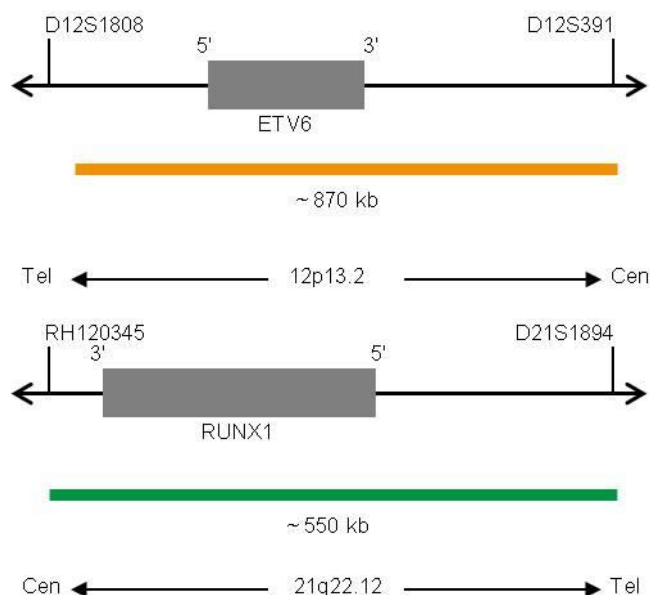

Fig. 1: Top: SPEC ETV6 Probe map; Bottom: SPEC RUNX1 Probe map (not to scale)
- ZyOrange (excitation 547 nm/emission 572 nm) labeled polynucleotides (~6 ng/μl), which target sequences mapping in 12p13.2* (chr12:11,586,400-12,454,330) harboring the ETV6 gene region (see Fig. 1).
- ZyGreen (excitation 503 nm/emission 528 nm) labeled polynucleotides (~12 ng/μl), which target sequences mapping in 21q22.12* (chr21:36,106,492-36,657,941) harboring the RUNX1 gene region (see Fig. 1).